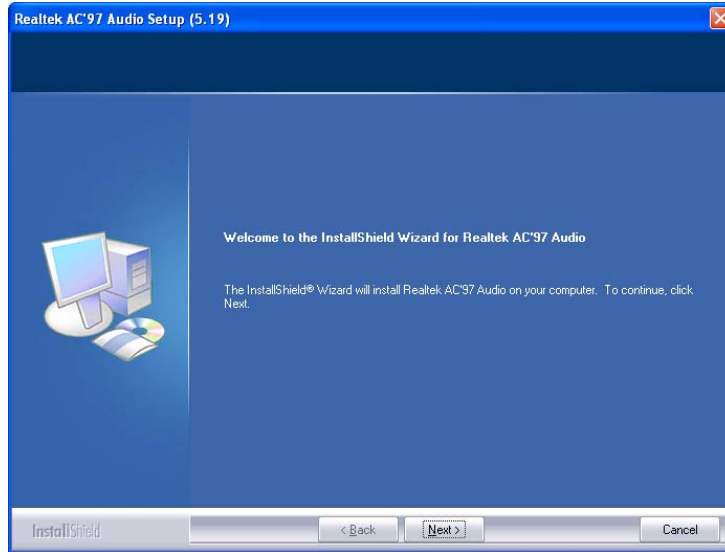

Figure 7-23: AC'97 Driver Installation Welcome Screen
Step 6: The AC’97 Driver Installation screen in Figure 7-23 appears.